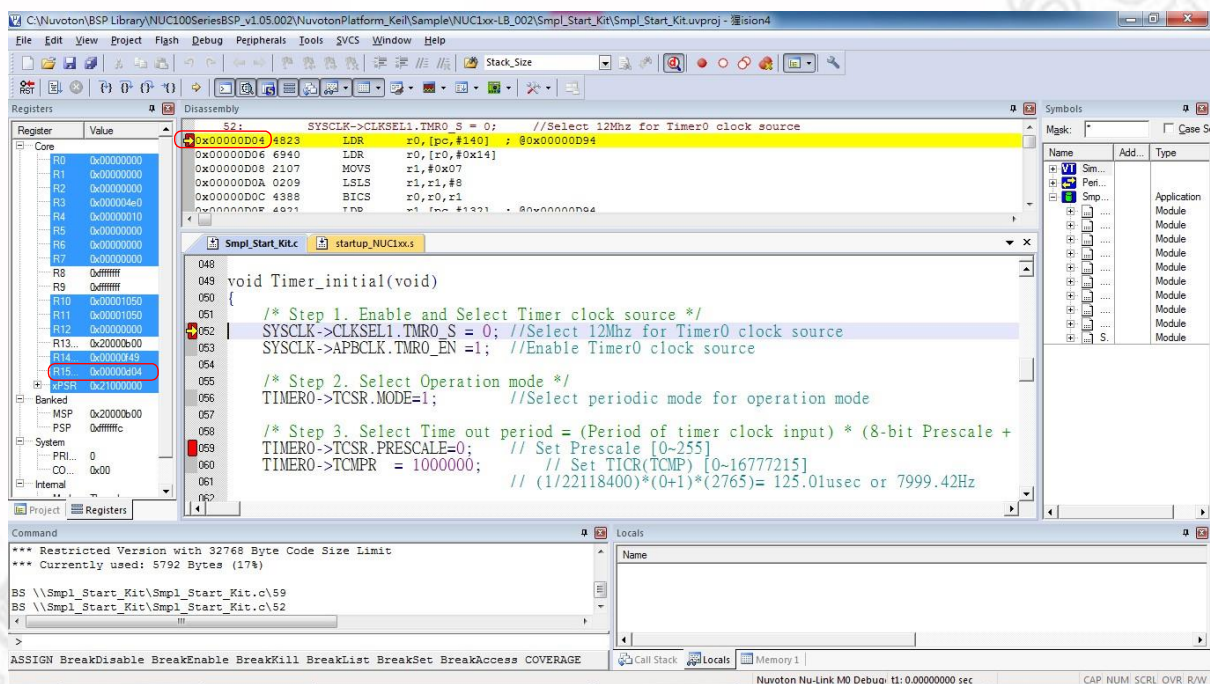

Figure 3-1 Setting Breakpoints in Keil RVMDC Debug Mode
In Debug mode, the user can add breakpoints in the code for debugging. During the real-time simulation of the Nu-Link Adapter, the chip simulation will be stopped at a specific breakpoint. Figure 3-1 shows the breakpoint settings in Keil RVMDC Debug mode. The red labels on lines 052 and 059 indicate the breakpoints inserted; the yellow arrow refers to the code to be executed next and shows the register value of Program Counter (PC) (i.e. “R15(PC)=0x0000D04” in the **Registers** pane in Figure 3-1).